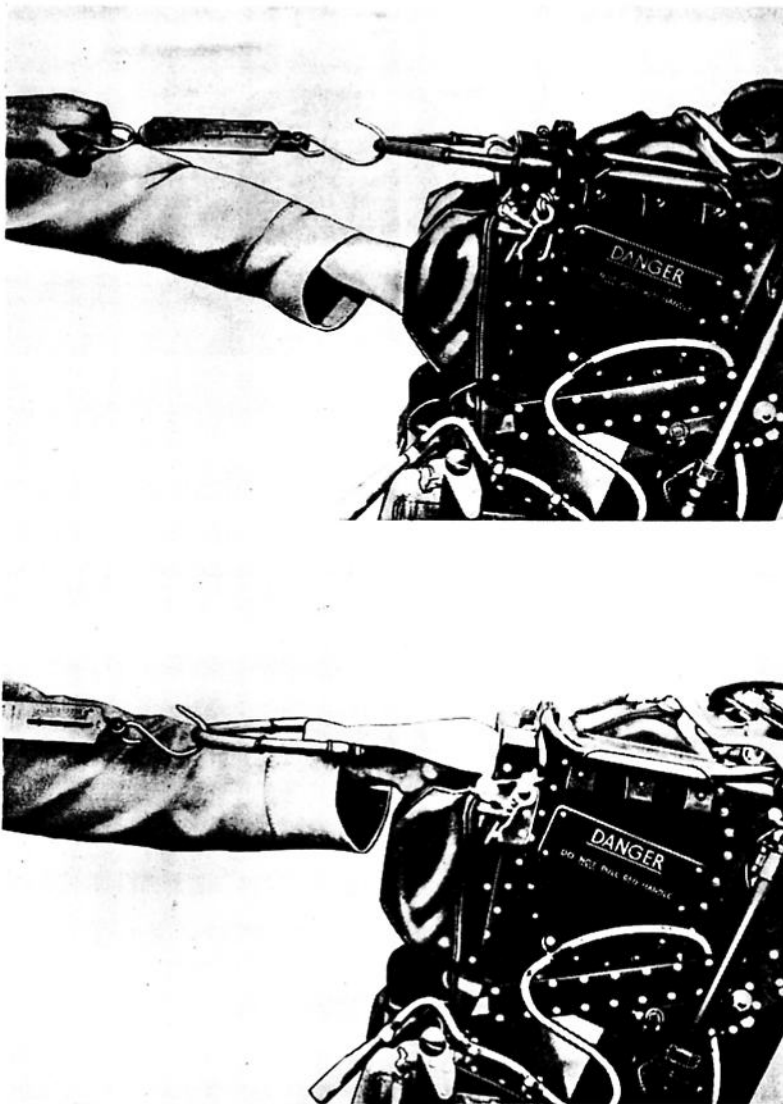

Fig. 3. Testing the face screen
10. Connect a spring balance to the firing handle (fig. 3) and pull until the spring-loaded plungers disengage, watching the scale whilst doing so. The face screen should not pull out of its housing until the scale registers 25 to 45 lb.